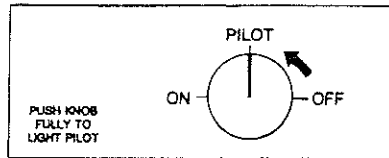

Figure 16. Rotate control valve to PILOT position.
3. Wait five (5) minutes to clear out any gas. If you then smell gas, **STOP!** Follow "2" in the safety information above. If you do not smell gas, go to the next step.
5. Turn the knob counterclockwise (↺) to the "PILOT". Do not push the knob in as you turn. (See Figure 16.)